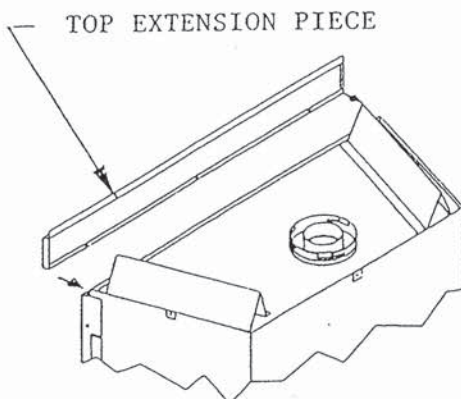

FIGURE 31
Remove the three (3) screws along the top front edge of the SL-36 Fireplace. Set the Top Extension Piece along this top front edge and attach it to the fireplace with the three (3) removed screws. Run these screws through the **REAR SIDE** of the holes in the fireplace top and into the back of the Top Extension. See Figure 31.